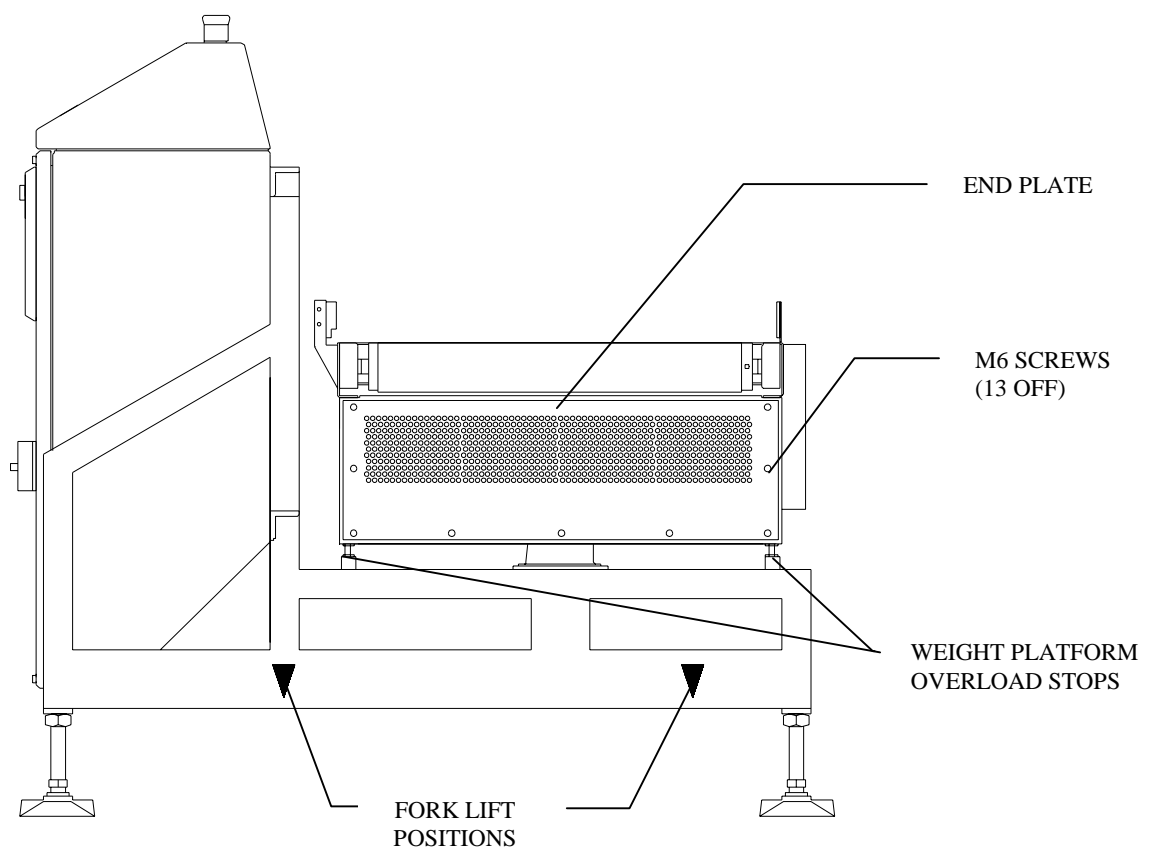

Figure 7.5 End View of Checkweigher
1. Position the forks beneath the machine so that it does not tilt at the lifting points indicated (see Figure 7.5). Raise the lift sufficiently to lift the machine clear of the ground and any obstacles.